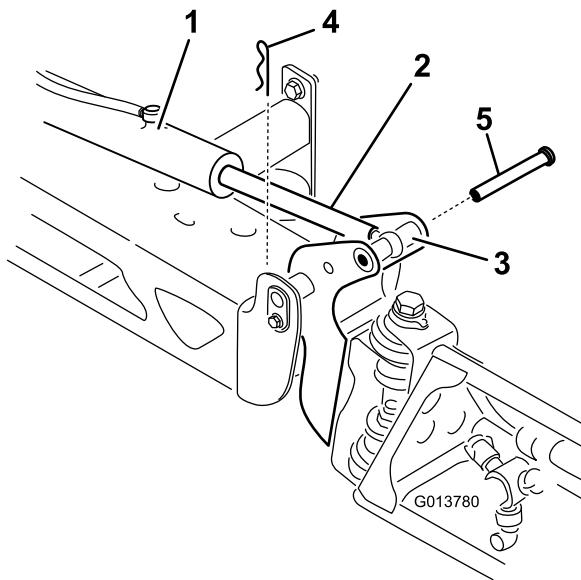

Figure 109
3. Lift up on the boom and remove the pin (Figure 109), and slowly lower the boom to the ground.
2. Remove the cotter pin from the pivot pin (Figure 109).
- While holding the boom, insert the pin through both boom pivot and actuator rod (Figure 109).